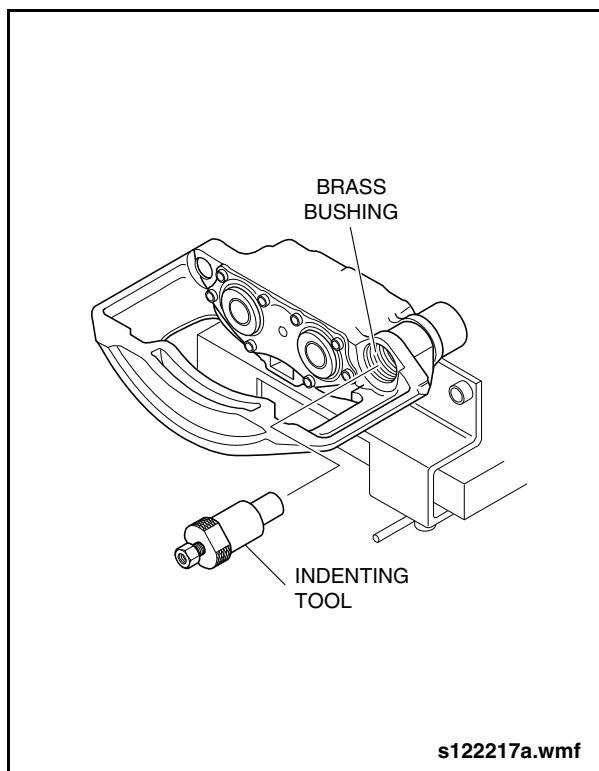

Fig. 1-62: Indenting Tool Installation
- c. Insert the indenting tool (Item 74 from special tools list) into brass bushing from the outside until the stop is contacted. See "Fig. 1-62: Indenting Tool Installation" on page 68.